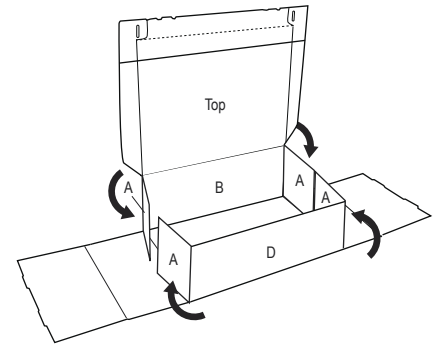

Figure 3
4. To form sides of box, fold ends up and tuck panels over flaps (A) until tabs lock into slots in bottom (C). (See Figures 3 and 4)